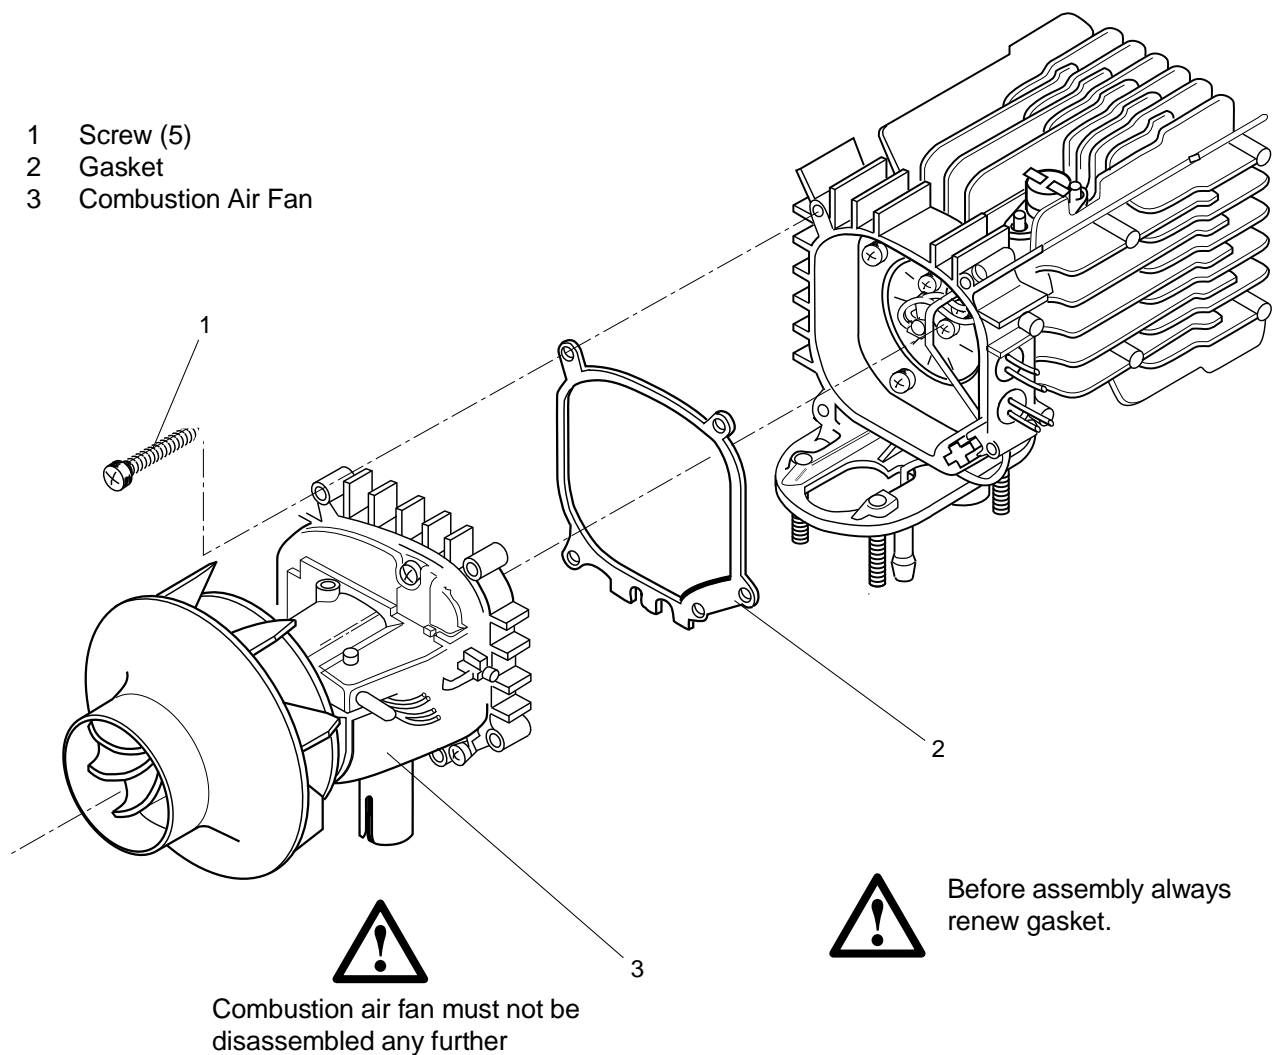

Fig. 903 Replacement of Combustion Air Fan (Disassembly)
6. Remove screws (1, Fig. 903).
7. Withdraw combustion air fan (3) and remove gasket (2).
2. Place new gasket (2, Fig. 903) onto flange of combustion air fan (3).